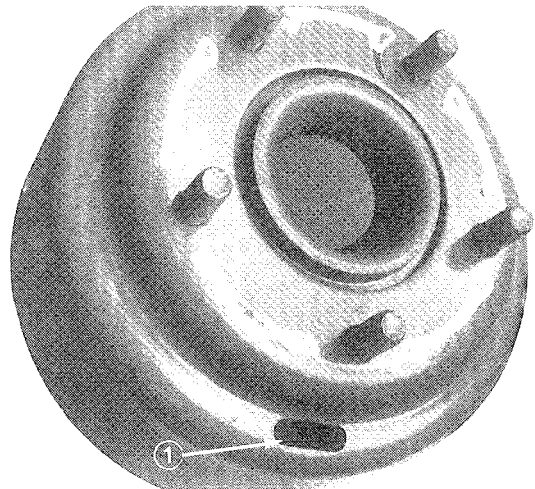
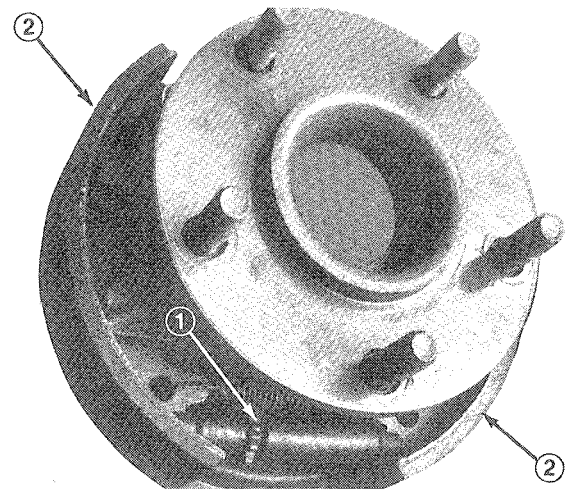

Figure 58
Figure 59
5. Remove wheel nuts and slide wheel and tire assembly off studs. Rotate brake drum until adjusting slot is at bottom and centered over star nut that adjusts brake shoes (Fig. 58).
6. Using a brake adjusting tool or screwdriver, rotate star nut (Fig. 58) down until brake drum (Fig. 59) locks because of outward pressure of brake shoes (Fig. 59).